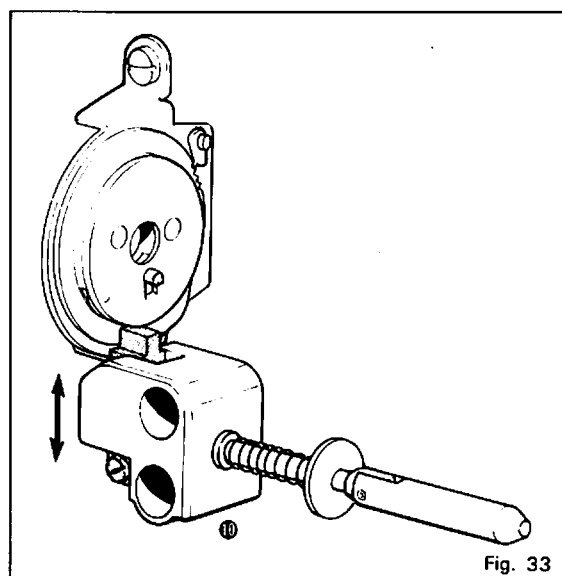

Fig. 33
If knife holder drops prior to the correct position, fasten stopper guide ⑩ so that it may be positioned far from lower shaft. (Fig. 33)